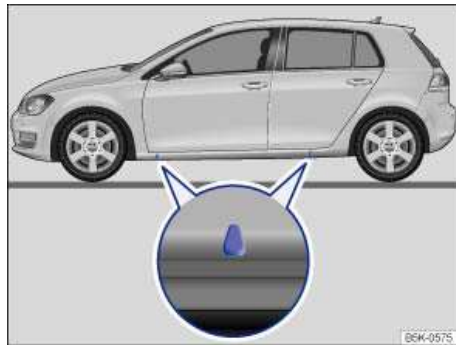

Fig. 174 Lift points for the jack.
The jack must be positioned at one of the 4 lift points marked on the vehicle body (2 on each side as shown in ⇒ fig. 174). You must use the lift point closest to the wheel being changed ⇒ ⚠.
6. Find the jack lift point ⇒ fig. 174 on the vehicle frame that is closest to the wheel to be changed.